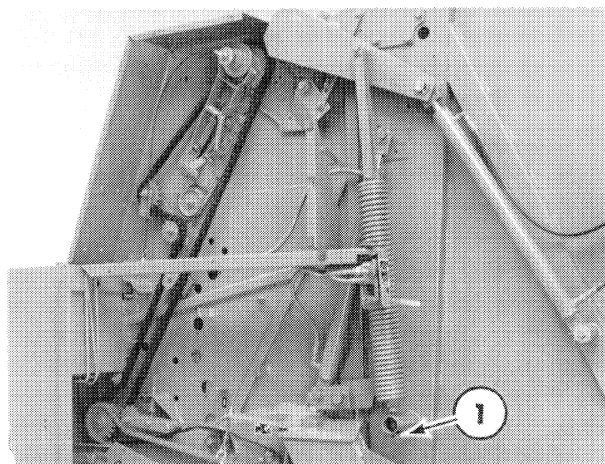

Figure 7-53
1. Loosen the spring tension bolt(s) until the springs are relaxed with 2" - 3" (50 mm - 75 mm) free length at 1, Figure 7-53.